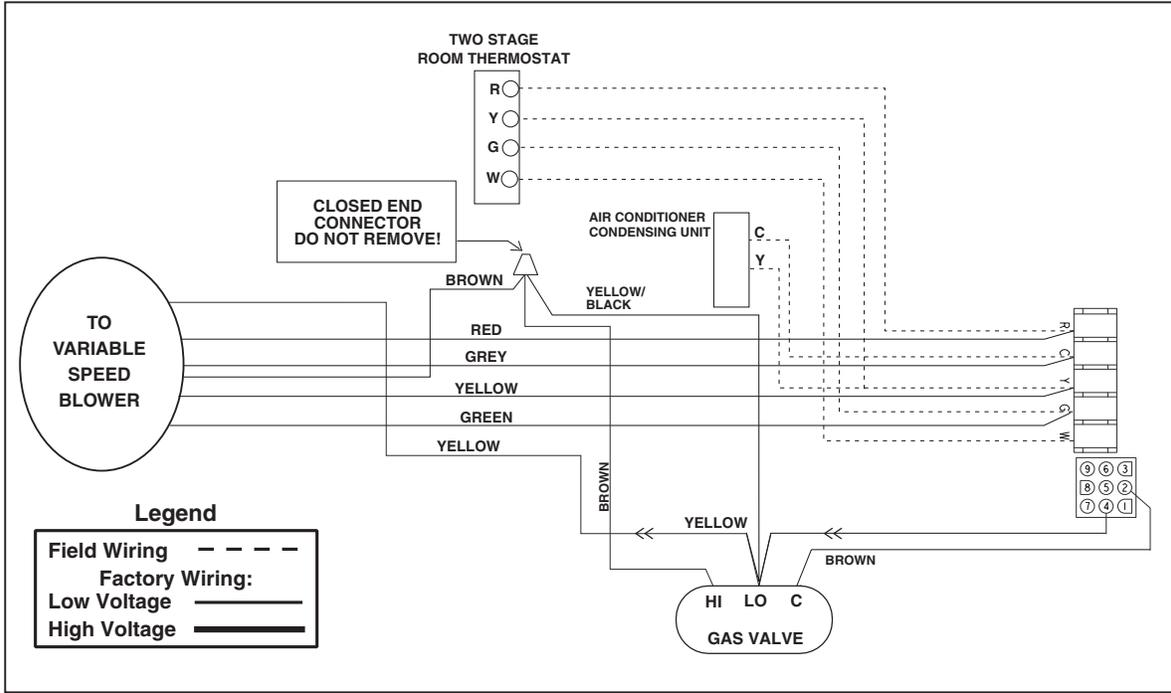

Figure 26b. High Fire Only Configuration
2. *High fire only configuration* – As shipped from the factory, low and high terminals on the gas valve are connected in parallel (See Figure 26b). This defeats the staging